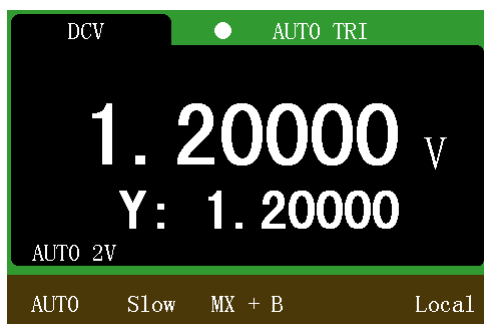
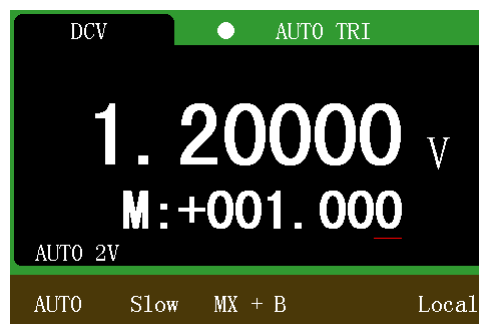

Figure 5-3 MX + B measurement interface
Figure 5-4 M value modified interface
Press **SHIFT** + **MAX** key combination to select the MX + B function, as shown in Figure 5-3.
- 2) In the interface shown in Figure 5-3, press the Enter key to call up the M value modification interface, as shown in Figure 5-4. The value of M can be modified by the use of up / down / left / right arrow key.
3) In the interface shown in Figure 5-4, press the Enter key to call up the B value modification interface. The value of B can be modified by the use of up / down / left / right arrow key.